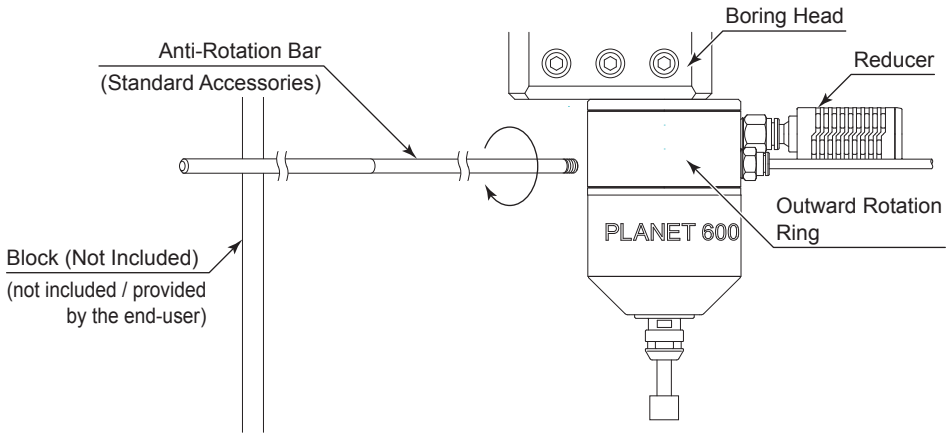

Fig. 11
- ② Thread the Anti-Rotation Bar into the Outward Rotation Ring of the Air Turbine Spindle before use. Refer to Fig. 11.